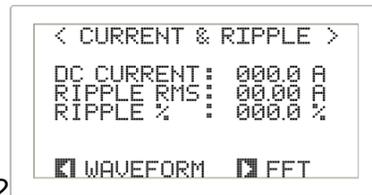
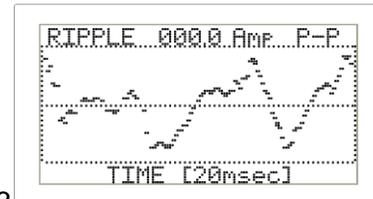
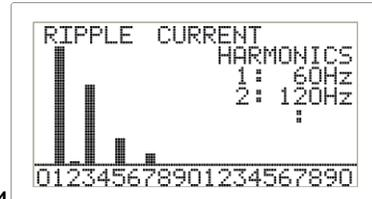

Fig. 2
Fig. 3
Fig. 4
2. After selecting the CURRENT & RIPPLE ICON, then you can see the value of DC current and ripple current (Figure 2).
5. During measurement, press the <◀> button, and then you can check 20ms WAVEFORM (Figure 3). If you want to move back to Figure 2, press the <ESC> button.
6. During measurement, press the <▶> button, then you can check the graph of frequency analysis (FFT). The graph indicates harmonic contents of 60Hz/50Hz commercial frequency (Figure 4). If you want to move back to Figure 2, press the <ESC> button.